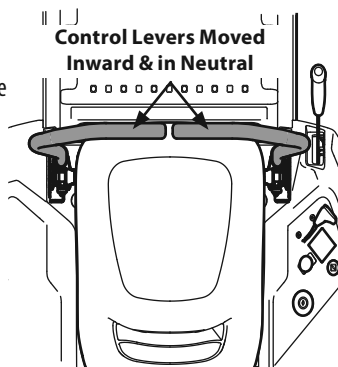

Figure 18
2. Move the RH and LH lapbar drive control levers inward in the neutral position which also disengages the parking brake. Refer to Figure 18.